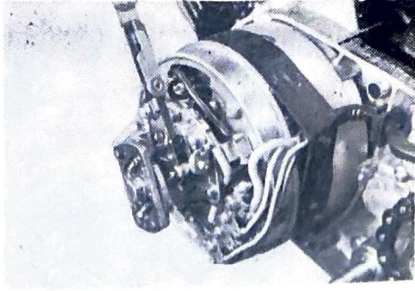

Fig. 5-4-13
- a) Set the point gap at 0.3-0.35 mm (0.012~0.014") (Fig. 5-4-13) When the points are at their widest opening.